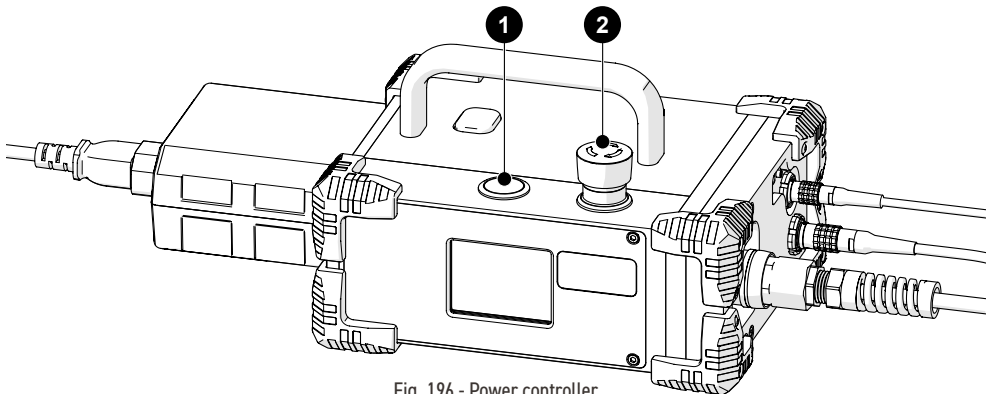

Fig. 196 - Power controller
3. Locate the **2** red stop push-button on the power controller. Rotate this button clockwise to unlatch (Fig. 196).
4. The **1** power button (Fig. 196) on the power controller activates the system.